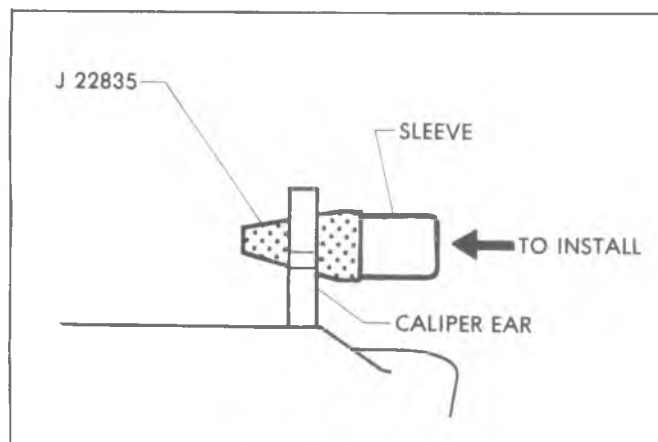

Fig. 5-25-Sleeve Installation
2. Use Tool, J-22835, to install the sleeves (fig. 5-25). Position the sleeves so that the end toward the shoe and lining assemblies is flush with the machined surface of the ear.